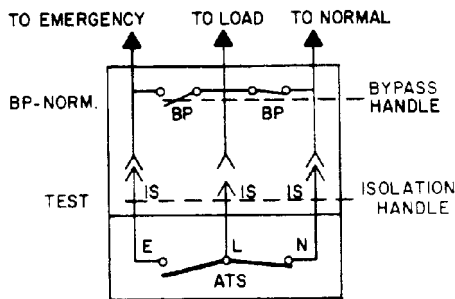

Figure 3-8. Test position.
2. Turn **Isolation Handle** clockwise to the *TEST* position (see Figure 3-8):